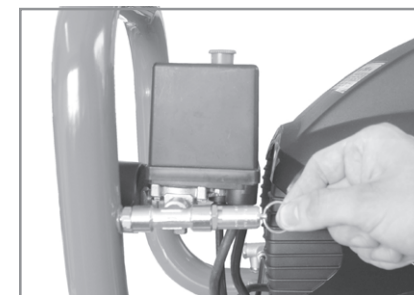

Figure 6
2. Check the operation of the safety valve, under pressure, daily by pulling the ring as shown in figure 6. Air should be released you pull the ring and stop when the ring is released.